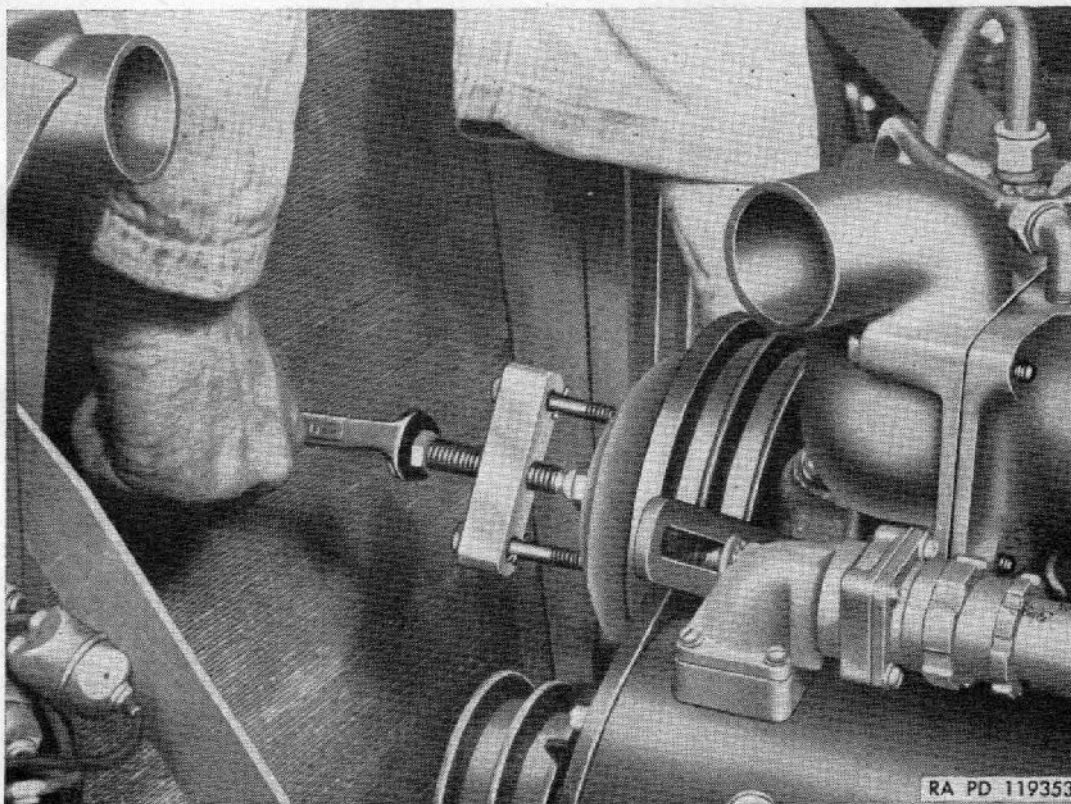

Figure 67. Removing fan-and-water-pump pulley with puller 41-P-2958-78.
b. REMOVAL. Remove fan (par. 122). Pull off fan-to-pulley adapter. Remove drive belts (par. 122). Disconnect thermostat-bypass line and air-compressor-water inlet line from top of water-pump housing and pull clear. Remove fan-and-water-pump pulley with puller 41-P-2958-78 (fig. 67). Remove key and pull off two